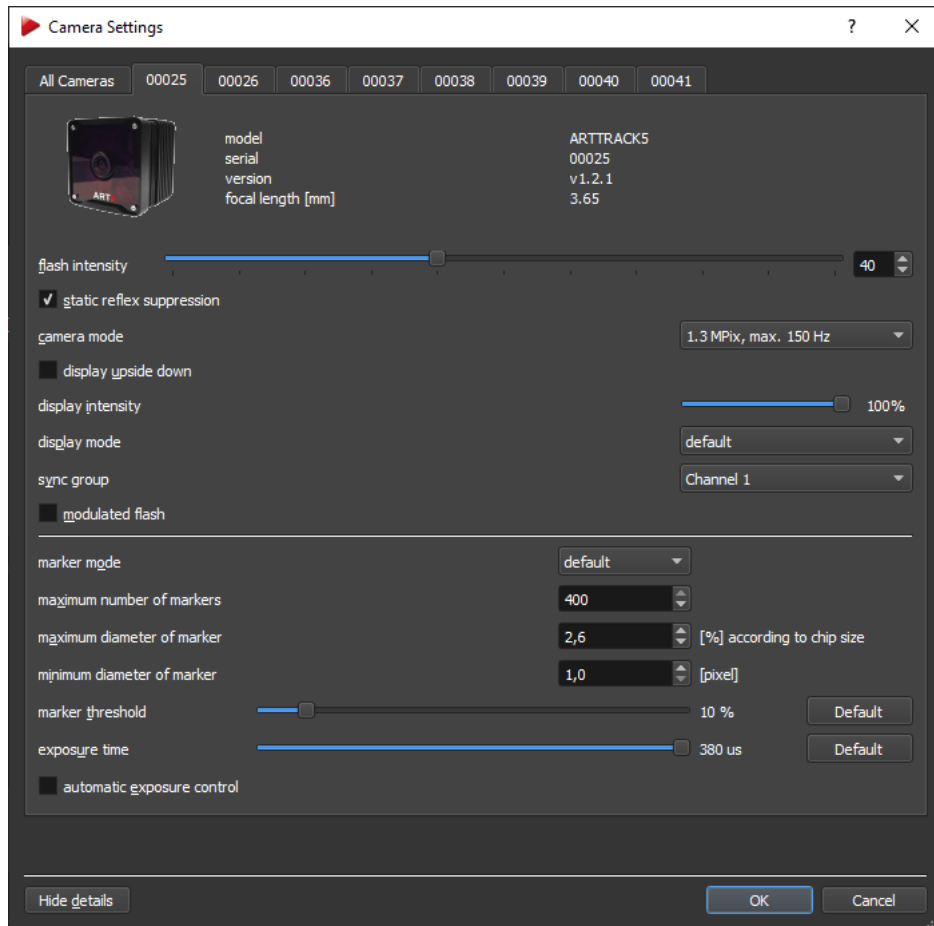

Figure 8.3: *Camera Settings* - Individual Tab
Each camera can also be accessed by its individual tab within this dialog (see figure 8.3 on page 76).
**Show Details** Here you can change the settings regarding low-level marker detection for individual cameras (see figure 8.3 on page 76):